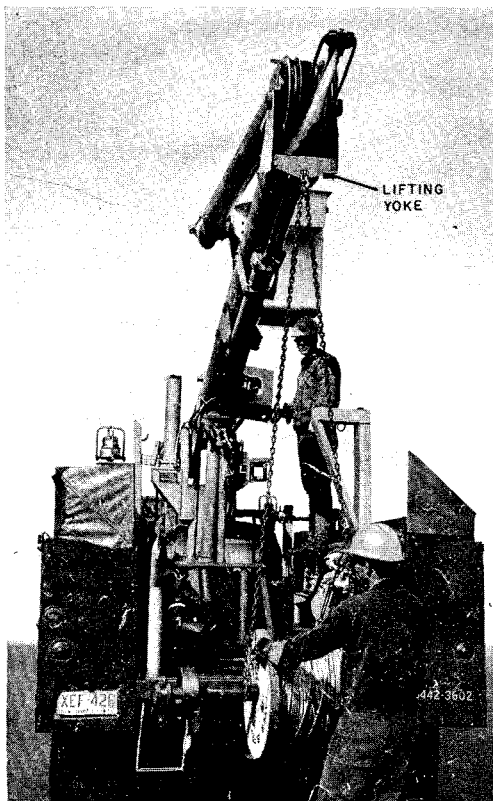

Fig. 9—Method of Attaching Lifting Chain on SKYWORKER
- (1) Position the reel at the rear of the truck so the strand will feed forward off the top of the reel when the reel is in place on the reel carrier.
- (2) Raise the upper boom enough to allow the basket to clear the truck body and position the lifting yoke on the lower boom over the reel.
- (3) Remove the spindle assembly from the reel carrier and fit the spindle into the center hole of the strand reel. Secure the reel on the spindle with a centering collar and a drive plate.
- (4) Attach the lifting chain to the boom lifting yoke. Attach the chain to the reel so the reel will not tilt when lifted.
- (5) Elevate the boom to lift the reel. The reel must be guided (Fig. 9) so the spindle bar will seat properly on the spindle support arms. Secure the spindle on the arms and detach the lifting chain from the reel and boom.